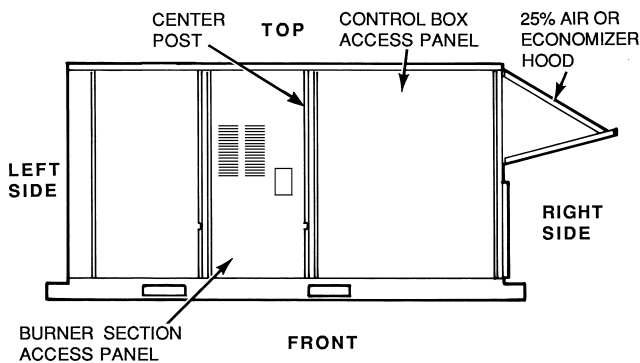

Fig. 1 — Access Panel Locations
3. Remove control box access panel, control box cover, burner section access panel, and unit center post. See Fig. 1.